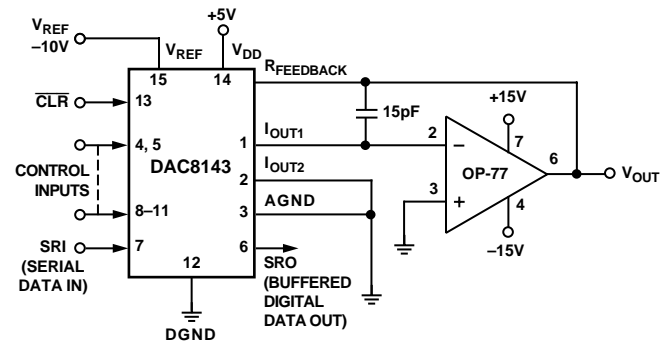

Figure 16. Unipolar Operation with High Accuracy Op Amp (2-Quadrant)
1. Phase compensation (see Figures 16 and 17).
The circuit shown in Figures 16 and 17 may be used with an ac or dc reference voltage. The circuit's output will range between 0 V and  $+10(4095/4096)$  V depending upon the digital input code. The relationship between the digital input and the analog output is shown in Table II. The  $V_{\text{REF}}$  voltage range is the maximum input voltage range of the op amp or  $\pm 25$  V, whichever is lowest.
1Nominal full scale for the circuits of Figures 16 and 17 is given by
2Nominal LSB magnitude for the circuits of Figures 16 and 17 is given by
The transfer function for the DAC8143 connect in the multiply-mode as shown in Figures 16 and 17 is:
In most applications, linearity depends on the potential of  $I_{OUT1}$ ,  $I_{OUT2}$ , and AGND (Pins 1, 2 and 3) being exactly equal to each other. In most applications, the DAC is connected to an external op amp with its noninverting input tied to ground (see Figures 16 and 17). The amplifier selected should have a low input bias current and low drift over temperature. The amplifier’s input offset voltage should be nulled to less than  $\pm 200 \mu V$  (less than 10% of 1 LSB).